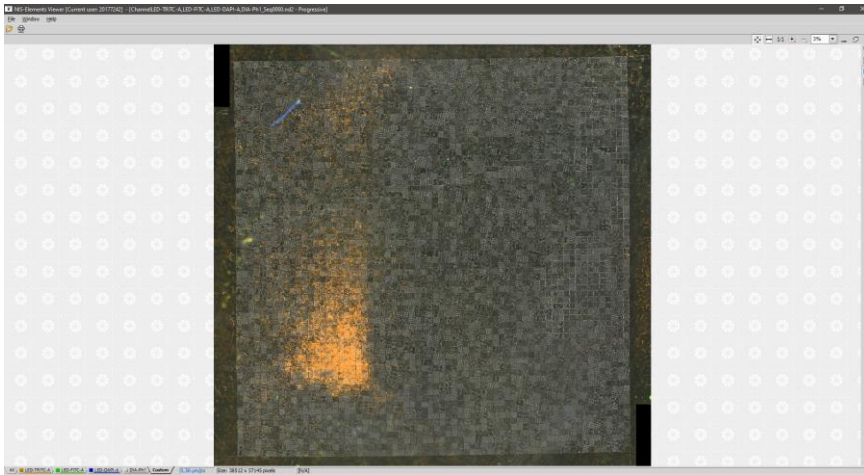

Figure 1 NIS viewer interface: NIS viewer can be used to inspect the image quality and to convert the images to .tif files.
2. Once the image is loaded, you perform a visual check to see if the raw image is of good quality (Figure 1). Based on your own criteria (failed staining, defective TopoChip, wrong stitching, etc.) you may decide not to include a chip in further analysis. Furthermore, it is important to check whether the staining has stained the right cellular components.